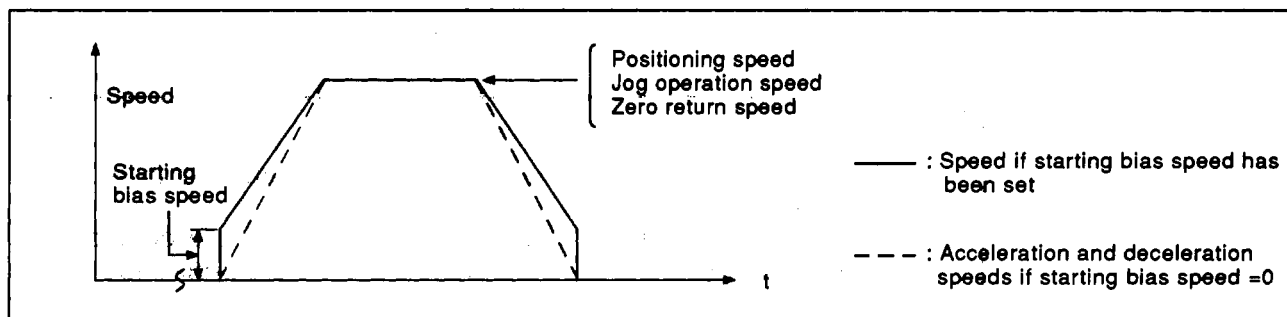

Fig. 3.3 Speed Change When Starting Bias Speed Is Set
(4) Jog speed limit value
(5) Starting bias speed
- The starting bias speed is used for positioning, jog operation, and zero return. See Fig. 3.3.